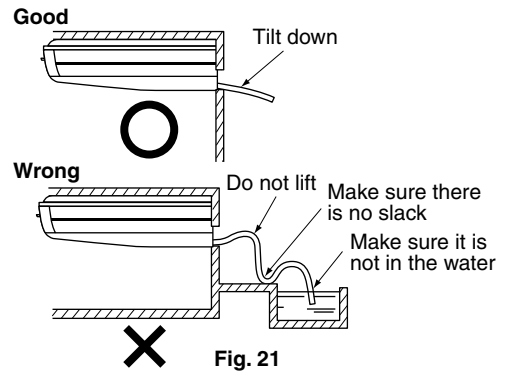

Fig. 21
- Make sure the piping is short, has at least a 1/100 slope, and can prevent air pockets from forming. (Refer to Fig. 21)